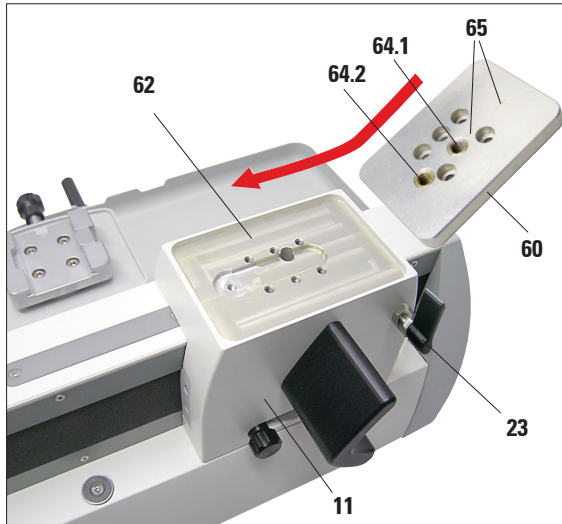

Fig. 9
- As shown in Fig. 9, place the intermediate plate on the mounting table. Make sure that the two index markings (65) are at the top and point towards the back.